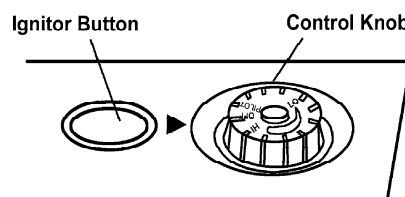

Figure 20 - Control Knob in The OFF Position
4. Wait five(5) minutes to clear out any gas. Then smell for gas, including near the floor. If you smell gas, STOP! Follow "B" in the safety information on the side of heater. If you don't smell gas, go to the next step.
5. Turn control knob counterclockwise ↻ to the PILOT position. Press in control knob for five(5) seconds. (see Figure 20).
8. Turn control knob counterclockwise ↻ to desired heating level. The main burner should light. Set control knob to any heat level between HI and LO. (see Figure 20)